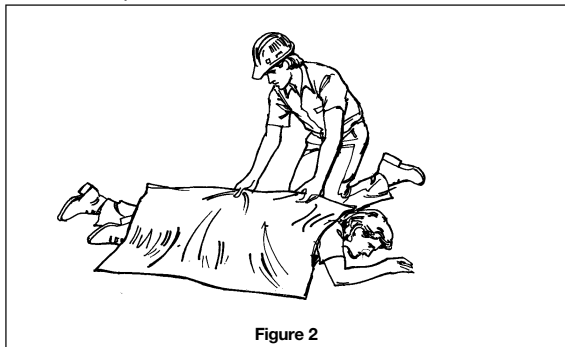

Figure 2
- If injuries permit, place the casualty in the recovery position (Figure 2) with the neck extended.